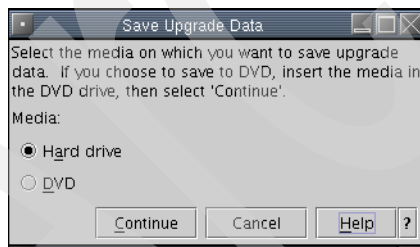

Figure 14-12 Save Upgrade Data media selection
- d. An information window opens (Figure 14-12) and prompts you to select the media type for the backup.